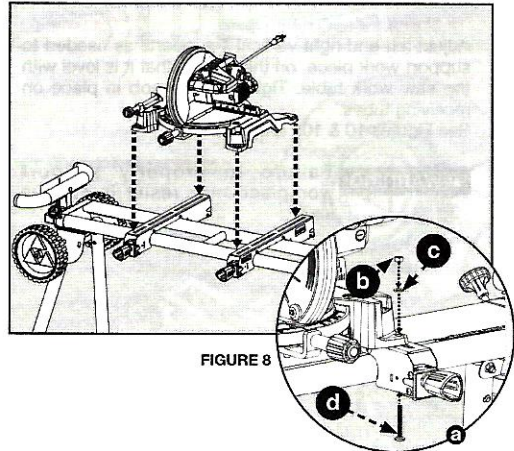

FIGURE 8
1. Place saw on mounting brackets and adjust brackets as needed to align holes in saw base to mounting bracket slots. Feed M8 x 55mm carriage bolt (d) up through the mounting bracket and secure with M8 washer (c) and M8 hex nut (b) as shown in Figure 8 and 8a. Repeat this step on remaining holes of saw.